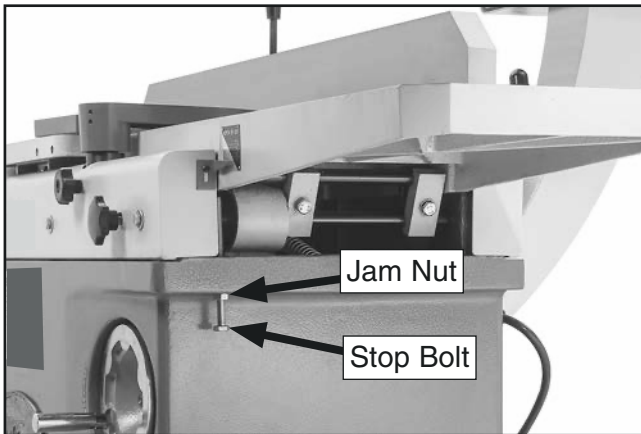

Figure 14. Infeed table stop bolt set to stop infeed table at $\frac{1}{8}$ " maximum depth of cut.
- Loosen jam nut (see **Figure 14**) on infeed stop bolt, then unthread stop bolt until table can be lowered to $\frac{1}{8}$ " on depth-of-cut scale, then adjust infeed stop bolt back against infeed table casting and tighten jam nut.